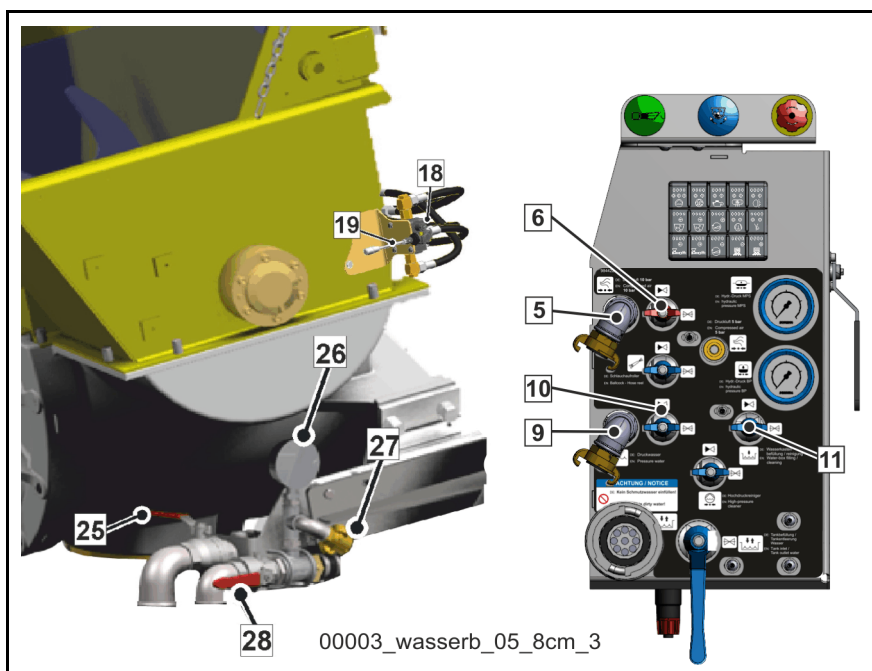
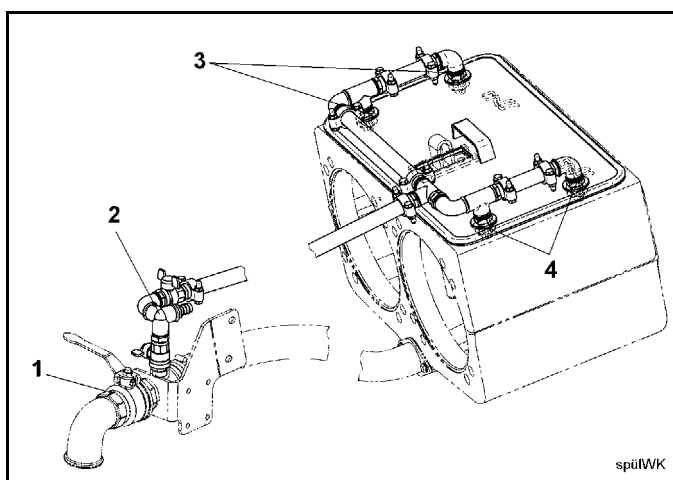

Fig. 253 Rear of the machine
Fig. 254 Flushing the water box
1. Open the drain cock (25) (**Fig. 253**) on the water box at the rear of the machine.
2. Start the water pump and route pressurised water into the spraying nozzles (3, 4) (**Fig. 254**) on the water box by switching the corresponding ball valves (11) (**Fig. 253**) on the rear of the machine and (2) (**Fig. 254**).